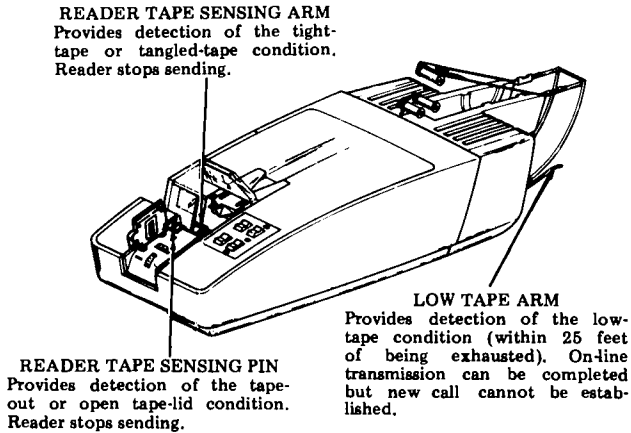

Fig. 12—Paper Tape Controls
4.03 The paper tape controls are described in Fig. 12.